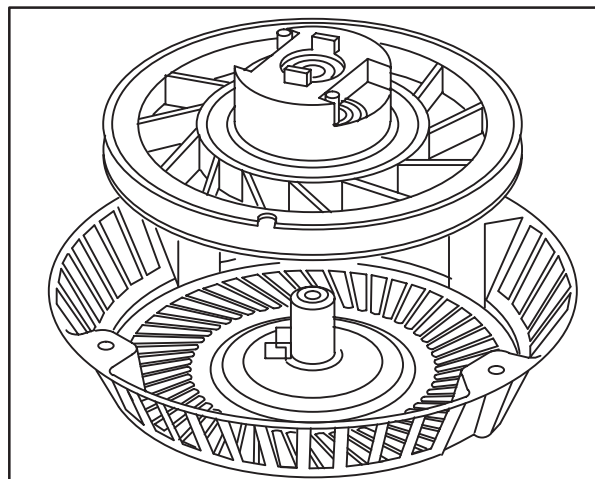

Fig. 57
5. Carefully lift out pulley with spring, Fig. 57.